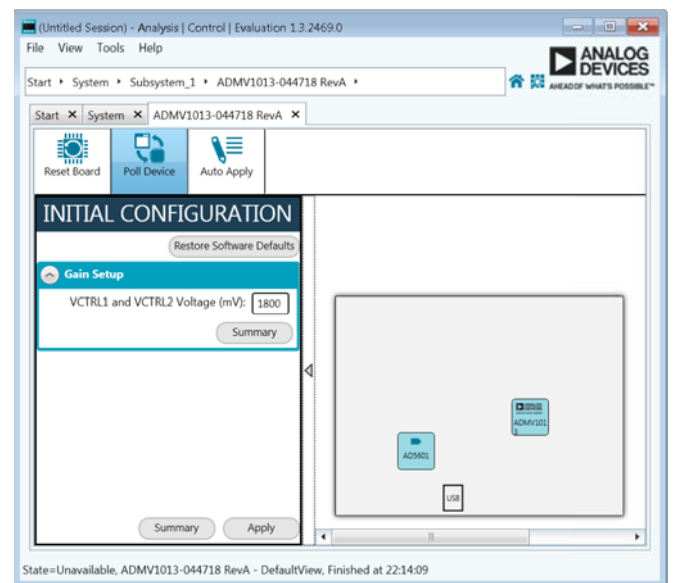
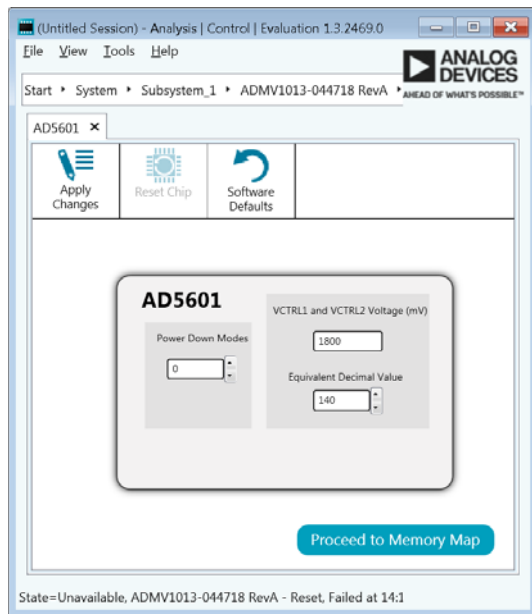

Figure 12. Initial Configuration for the Gain Setup and Board Plugin View
Figure 16. AD5601 nanoDAC User Interface
5. When the ADMV1013-EVALZ plugin is double clicked, the **ADMV1013-044718 RevA** tab shown in Figure 12 opens. On the left side of the window, open the **INITIAL CONFIGURATION** section, click **Gain Setup**, and enter the V_{CTRL} in the **VCTRL1 and VCTRL2 Voltage (mV)** box. Note that 1800 mV is the highest gain setting for the device.
The ADMV1013-EVALZ evaluation board comes with the AD5601 nanoDAC. The AD5601 nanoDAC sets the V_{CTRL} voltage for the VCTRL1 and VCTRL2 pins of the ADMV1013. When the ADMV1013 plugin opens, enter the V_{CTRL} voltage in the **VCTRL1 and VCTRL2 Voltage (mV)** box in the **INITIAL CONFIGURATION** section to set the voltage (see Figure 12). Note that 1800 mV is the highest gain setting for the devices.
When using an external power supply for the V_{CTRL} voltage, use the AD5601 nanoDAC plugin to change the voltage or power down the AD5601 nanoDAC. To open the AD5601 nanoDAC plugin, double click the AD5601 button in the **ADMV1013-044718 RevA** tab (see Figure 12). Figure 16 shows the AD5601 nanoDAC user interface. The user interface contains the **Power Down Modes** box, the **VCTRL1 and VCTRL2 Voltage (mV)** box, and the **Equivalent Decimal Value** box.
After making any changes to the voltage or to the power-down mode, click **Apply Changes** (see Figure 16). To allow the changes to take place automatically, select **Auto Apply** in the **ADMV1013-044718 RevA** tab. There is no need to click **Apply Changes** after selecting **Auto Apply**.